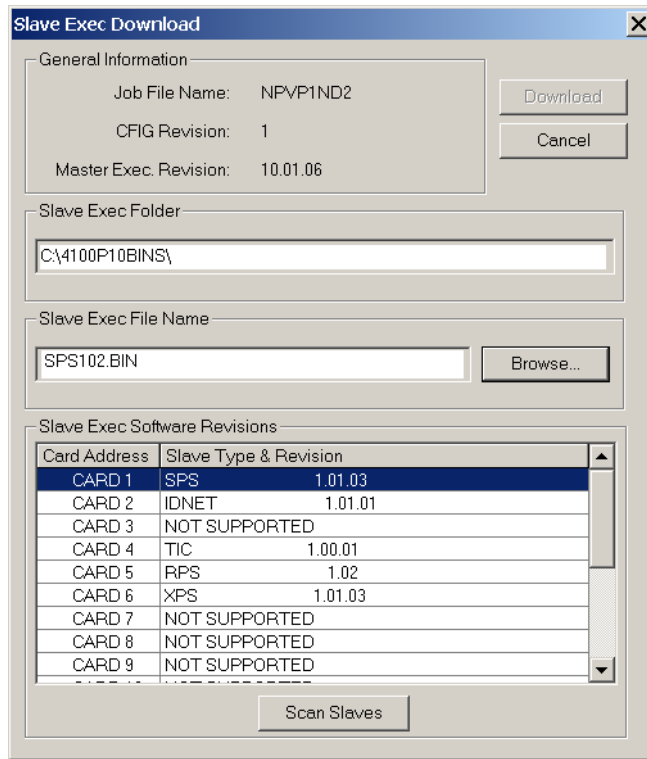

Figure 14-8. Slave Exec Download Dialog
4. Click the Download button, located on the right side of the dialog. The Slave Exec Download screen, shown in Figure 14-8, appears.